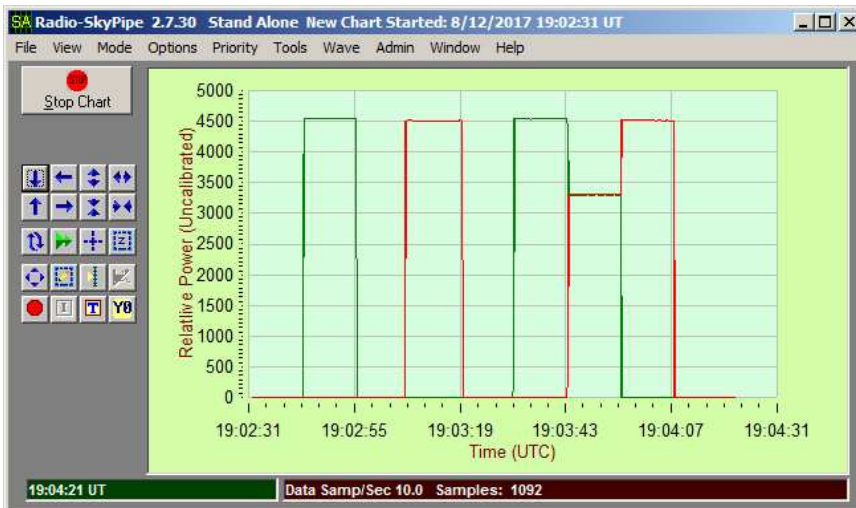
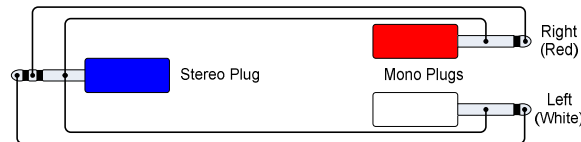

Figure 12 ~ Radio-SkyPipe was setup to use the Left (green trace) and Right (red trace) channels of the PC's internal soundcard. Test sequence:
Figure 14 ~ Stereo to Mono adapter cable diagram.
Because the tester is designed to be used as an aid in soundcard setup, I tested it with a soundcard, in this case the internal soundcard in a Windows XP PC. This PC uses the Analog Devices AD1982 chipset and has a stereo Line In jack and a separate Microphone jack. I tested with two different audio cables, one with 3.5 mm stereo plugs and the other with 3.5 mm mono plugs. The soundcard was setup to use the Line In jack (figure 10). I then used the GoldWave audio editor program to record the test activity (figure 11). All switch and control functions through a positive twist in fate worked as expected the first time. The ultimate test was to use the tester on a Windows XP PC with Radio-SkyPipe and this was successful (figure 12). I also used the tester on a Windows 10 PC with a built-in soundcard, Radio-SkyPipe and Argo. I let Radio-SkyPipe run for 12 hours (figure 13) to check long-term output stability. Argo shows very good frequency stability (figure 14).
Figure 14 ~ Argo shows a stable output frequency (white horizontal line) of approximately 989.5 Hz over the 13 minute recording. These measurements were made while running on an external 12 Vdc regulated power adapter.
5. Use a shielded audio cable with stereo or mono plugs as required by the soundcard configuration to be setup. A stereo plug has tip, ring and sleeve contacts and mono has only tip and sleeve contacts. In some cases it may be necessary to adapt two individual mono circuits to stereo (figure 14). For the 3.5 mm stereo plug, the left channel is the tip and right channel is the ring lead.